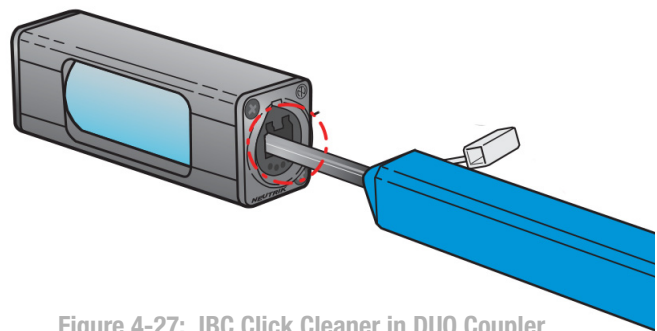

Figure 4-27: IBC Click Cleaner in DUO Coupler
- Step 5. Carefully align the IBC Click Cleaner onto an LC connection. (**Figure 4-27**)